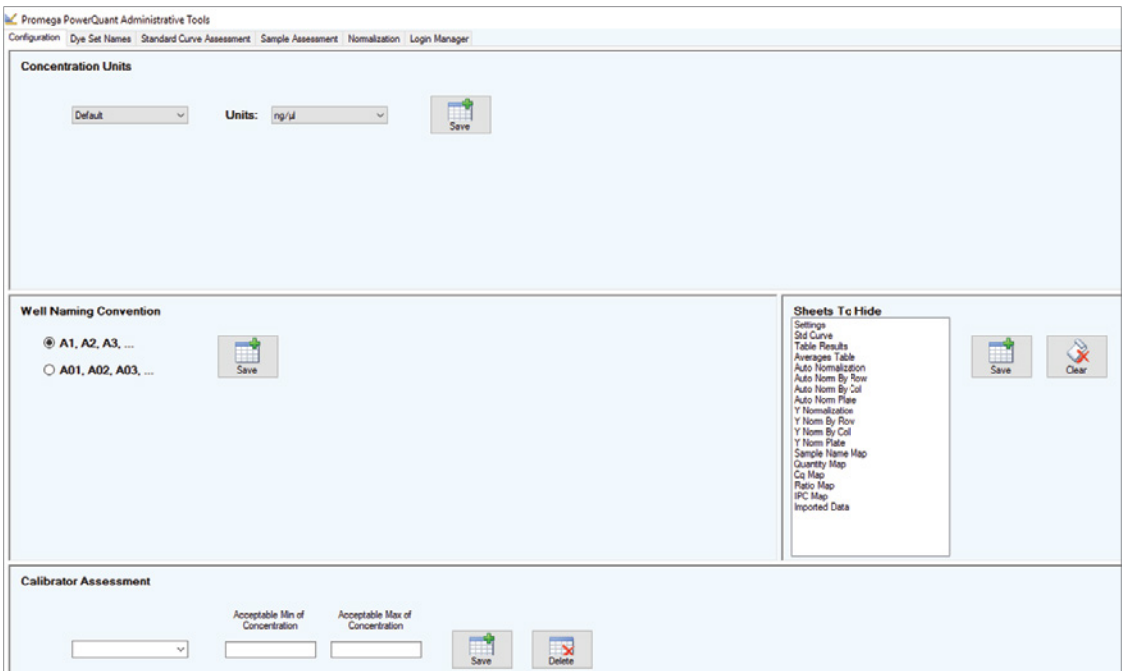

Figure 64. The 'Configuration' tab.
Selections made in the 'Configuration' tab of the 'Promega PowerQuant Administrative Tools' window are the settings used in the analysis and the final report (Figure 64). The 'Configuration' tab is used to set units for DNA concentration, well-naming convention (A1, A2, A3. . . or A01, A02, A03. . .), calibrator assessment values (for use with a virtual standard curve only, see Section 9.L) and selection of worksheets to omit from the final report.
3. Select the 'Configuration' tab (Figure 64).